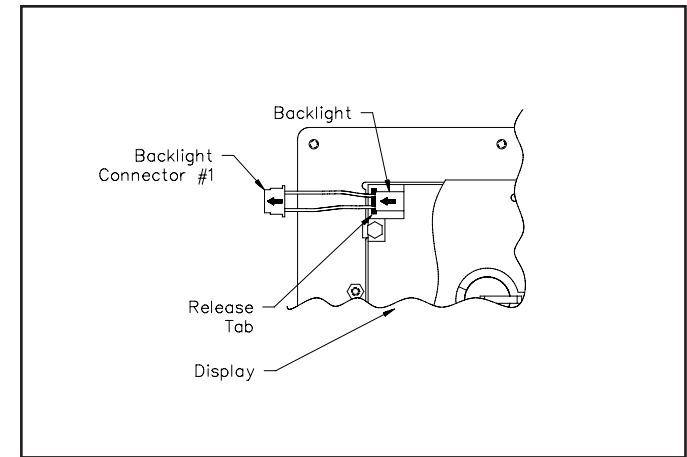

Figure 2
5. Depress the backlight release tab and carefully remove the backlight as indicated in Figure 2.